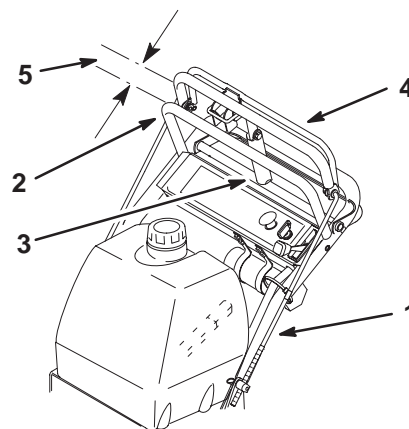

Figure 11
4. Check the gap between upper control bar and fixed bar with wheel drive fully engaged. Gap should be approximately 1 to 1-1/4 inch (25-32 mm) (Fig. 11).